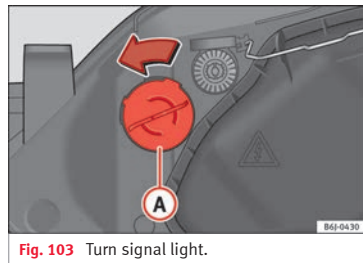

Fig. 103 Turn signal light.
- Turn bulb holder»» Fig. 103 Ⓐ to the left and pull.